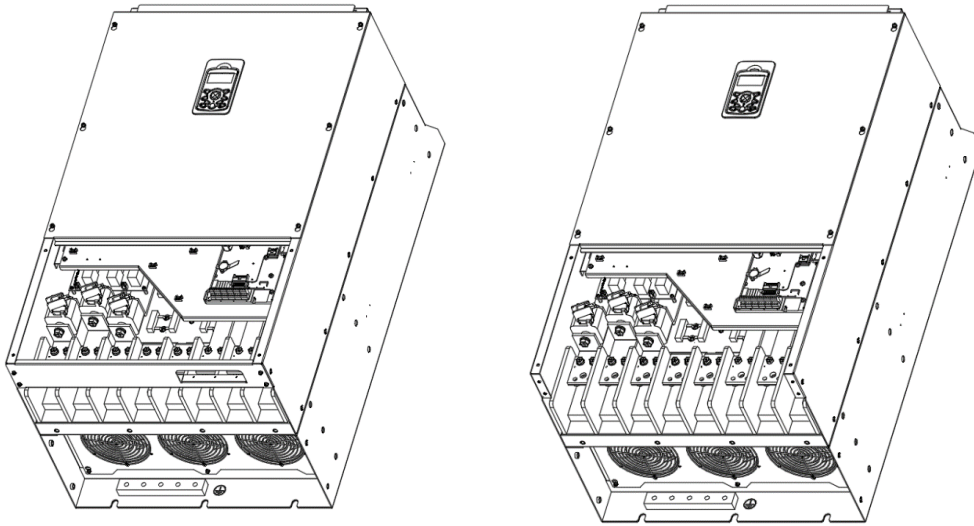

Figure 13. Remove power cover and front cover
- ① Remove the power cover and front cover of the product as shown in Figure 13.